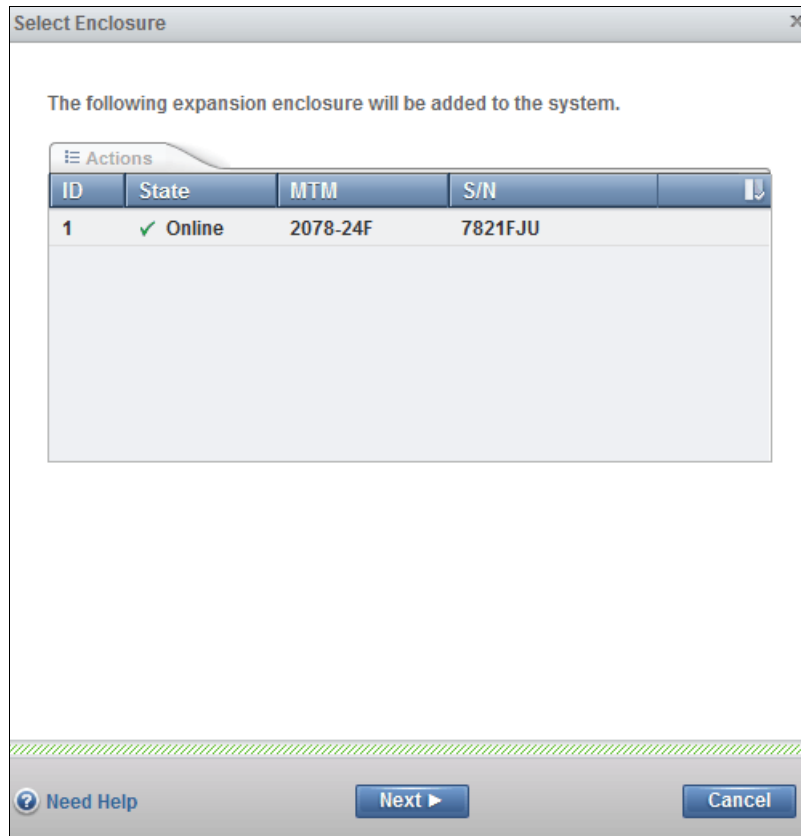

Figure 2-47 Expansion enclosure cable check
2. If the enclosure is cabled correctly, the wizard identifies the candidate expansion enclosure. Select the expansion enclosure and click **Next**, as shown in Figure 2-47.